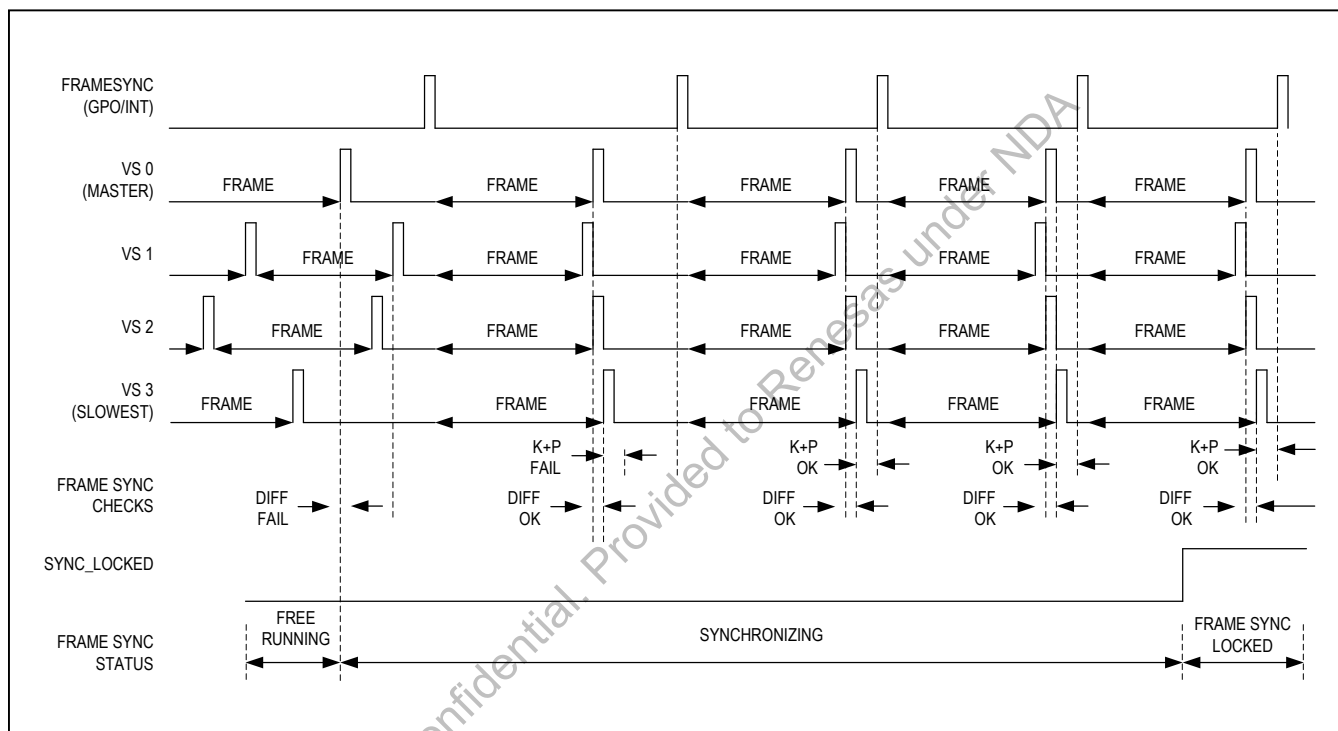

Figure 46. Example Frame Sync Operation (Automatic Mode)
- Automatic Mode (FSYNCMETH = 1X) (Figure 46)